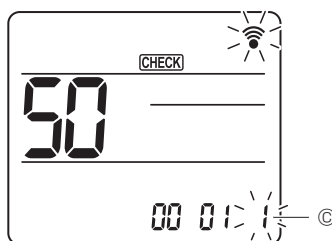

Fig. 11-4
Use the **[↓]** button to change the Setting number ③. (Fig. 11-4)